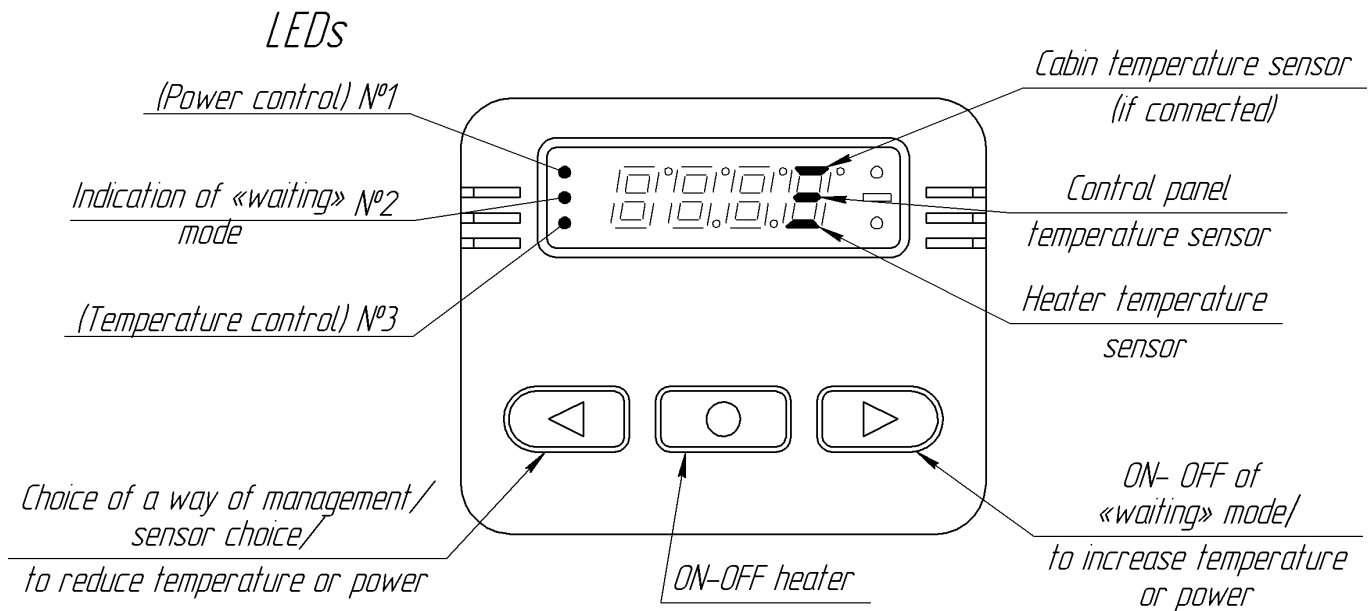

Fig. 6.2- Control panel «IIY-8M»
6.2.1 The front board of the panel contains: four-digit light emitting diode (LED) indicator, three LEDs and three knobs. Functionality of the knobs and LEDs. (fig.6.2)
While first time the heater is connected to electric circuit of the car or after breaks of power supply, according to environmental temperature there will be following information on the panel (for example)- the temperature in the area of the sensor installed in the heater is -12°C, if the temperature in the area of the sensor is above zero, there will be no “mines” before the figure. Movement according to the main menus is carried out by the button «←» (fig.6.2)